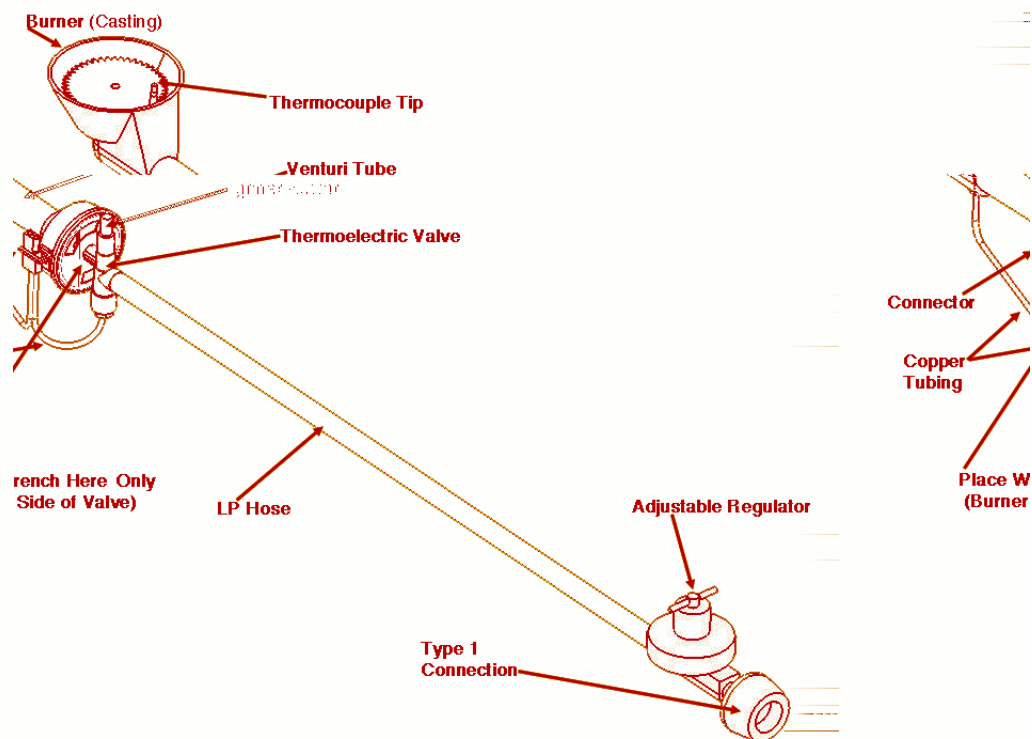

FIGURE 1
Remove burner assembly from packaging and inspect to ensure all components of the burner/gas train assembly are present and without damage. Use care during assembly not to damage any components. See **Figure 1** for detailed view of the burner/gas train assembly.
3. Keep 24 inches of space between the LP gas cylinder and the appliance as per Figure 1.
(Figure 1)